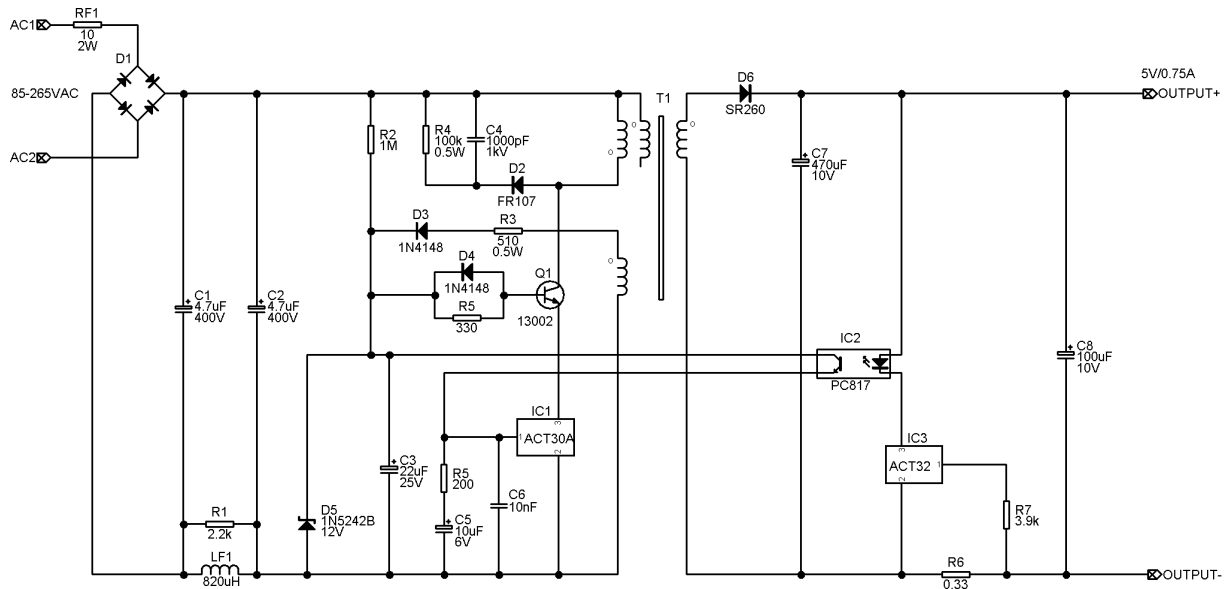

Figure 6. A 3.75W Charger Using ACT30A in combination with ACT32
The application circuit in Figure 6 provides a 5V/0.75A constant voltage/constant current output. An ACT30A is used in combination with the ACT32 for highest efficiency and lowest component count.
Table 2. System Performance of Circuit in Figure 6
1. Use a "star point" connection at the GND pin of ACT30 for the VDD bypass components (C5 and C6 in Figure 6), the input filter capacitor (C2 in Figure 6) and other ground connections on the primary side.